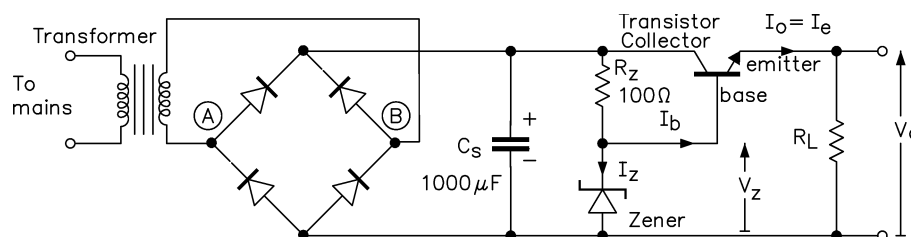

Figure 6: Series-pass transistor regulating circuit.
In Figure 6, a forward biased *npn* power transistor is used as a *current amplifier*⁴.
- (13) Construct the circuit of the series transistor regulator as shown in Figure 6.
- (14) On the same graph as before, plot V_o against I_o . Again, note and record the order of magnitude of V_{pp} .